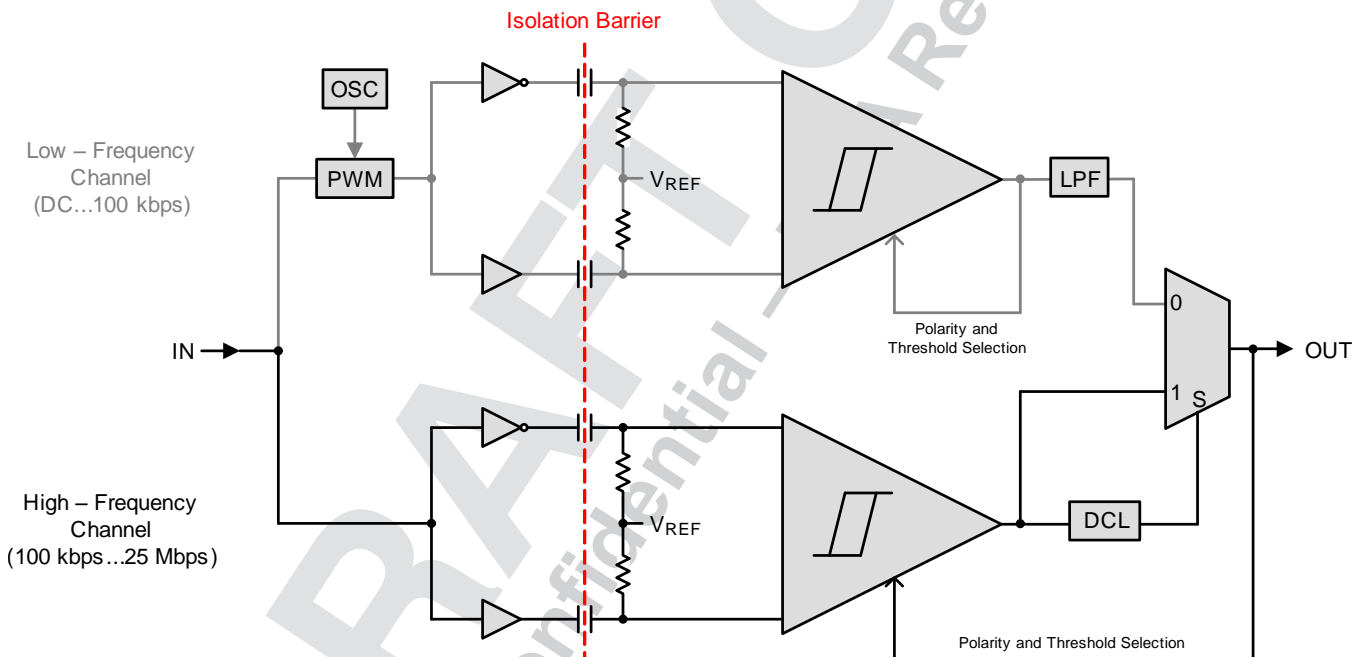

Figure 13. Conceptual Block Diagram of a Digital Capacitive Isolator
The isolator in Figure 13 is based on a capacitive isolation barrier technique. The I/O channel of the device consists of two internal data channels, a high-frequency (HF) channel with a bandwidth from 100 kbps up to 25 Mbps, and a low-frequency (LF) channel covering the range from 100 kbps down to DC.